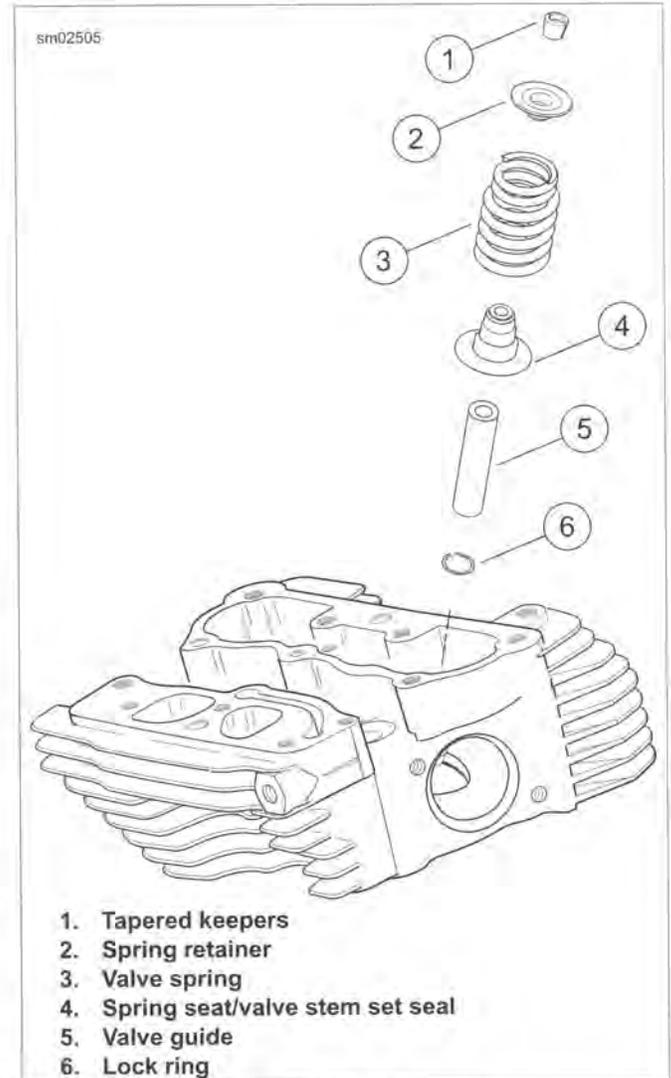

Figure 3-52. Valve Assembly
10. See Figure 3-52. Apply a liberal amount of SCREAMIN' EAGLE ASSEMBLY LUBE to valve stem tip and keeper groove (1).
11. With the smaller diameter coils topside, install the valve spring (3). Place the spring retainer (2) on top of the valve spring.